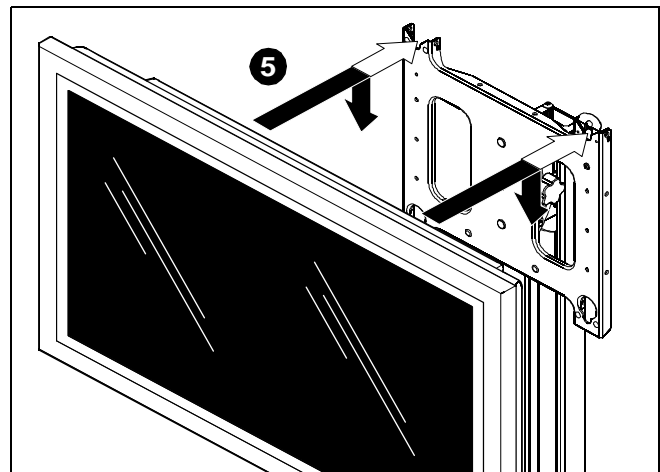
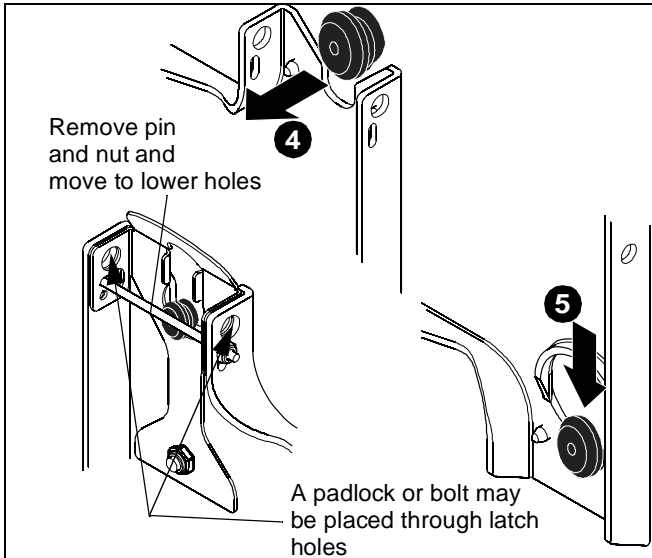

Figure 7
Figure 8
- Lower display into place listening for audible "click" to ensure recessed area of mounting buttons are properly seated in lower area of mounting holes. (See Figure 7) and (See Figure 8)
**NOTE:** Holes are provided in the faceplate for use with a padlock or similar locking device, if desired. In addition, the pin and nut may be removed from the upper holes and moved to the lower holes for use as a more permanent locking device. (See Figure 8)